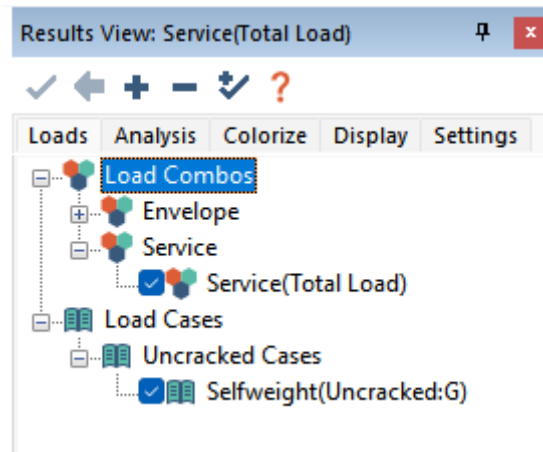

FIGURE 9-1
- Click on the **Results Display Settings**  icon to open the *Results View* panel as shown in **FIGURE 9-1**.